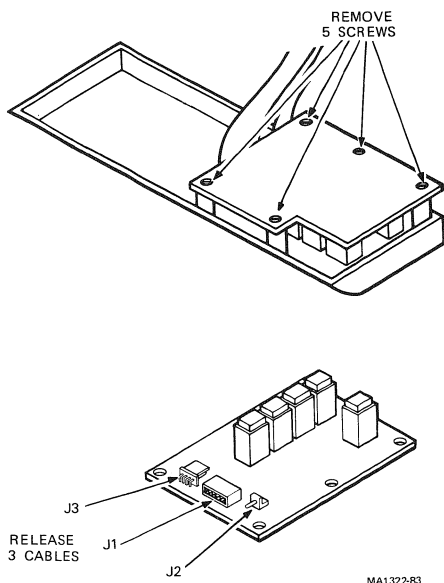

Figure 4-12 Removing the Operator Panel
3. Remove five screws securing operator panel to operator panel bezel and lift panel off bezel (Figure 4-12).
4. Unplug three cables at operator panel location J1, J2, and J3 (Figure 4-12). J1 is panel I/O, J2 is door open solenoid, and J3 is door open sensor.